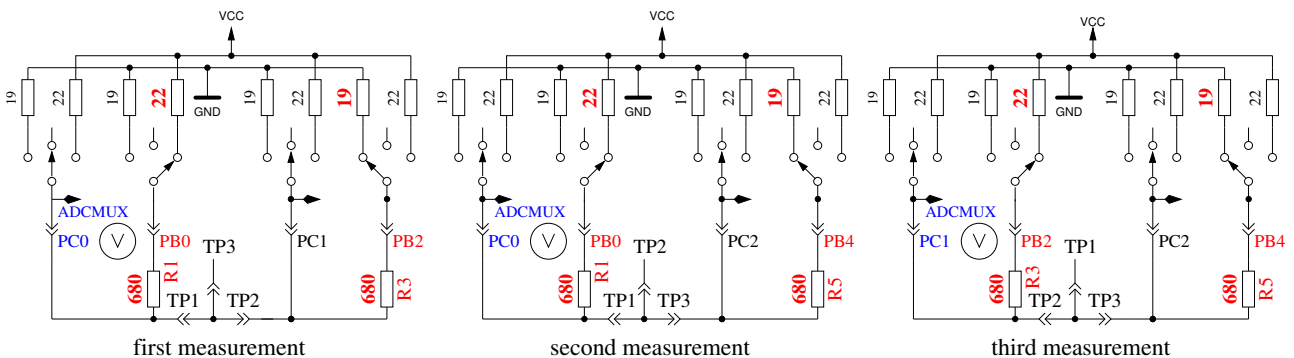

Figure 5.45: Comparison of 680Ω resistors
2. **Comparing of the 680Ω resistors.** In row 1 the cryptic text “+RL- 12 13 23” is shown. Meaning of this is as follows: The RL is the short form of Resistor Low meaning the 680Ω resistors. The 12 stand for: resistor at pin 1 is connected to VCC (+) and resistor at pin 2 is connected to GND (-). The result of this measurement is displayed in row 2 at the first place as difference to the theoretical value. In row 1 follows now a “13” which means, that the first connection of measurement 1 is still connected with 680Ω to VCC but that the resistor of pin 3 is connected to GND. The result is displayed in the middle place of row 2 as difference to the theoretical value. The last measurement of this test “23.” means that now the resistor at pin 2 is connected to VCC (+) and the resistor of pin 3 is connected to GND. The result of measurement is displayed at the last place of LCR row 2 as difference to the theoretical value. Please remember, that the resolution of the ADC is about 4.88mV! The measurement situation is also shown in figure 5.45. The theoretical value with respect to the internal resistance of the pins should be:  $\frac{5001 \cdot (19+680)}{(19+680+680+22)} = 2493$ .